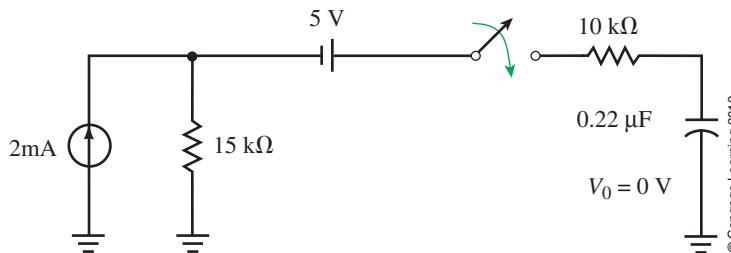

FIGURE 11-69
51. The switch of Figure 11-69 is closed at $t = 0 \text{ s}$. Using PSpice, plot voltage and current waveforms. Use the cursor to determine v_C and i_C at $t = 10 \text{ ms}$.